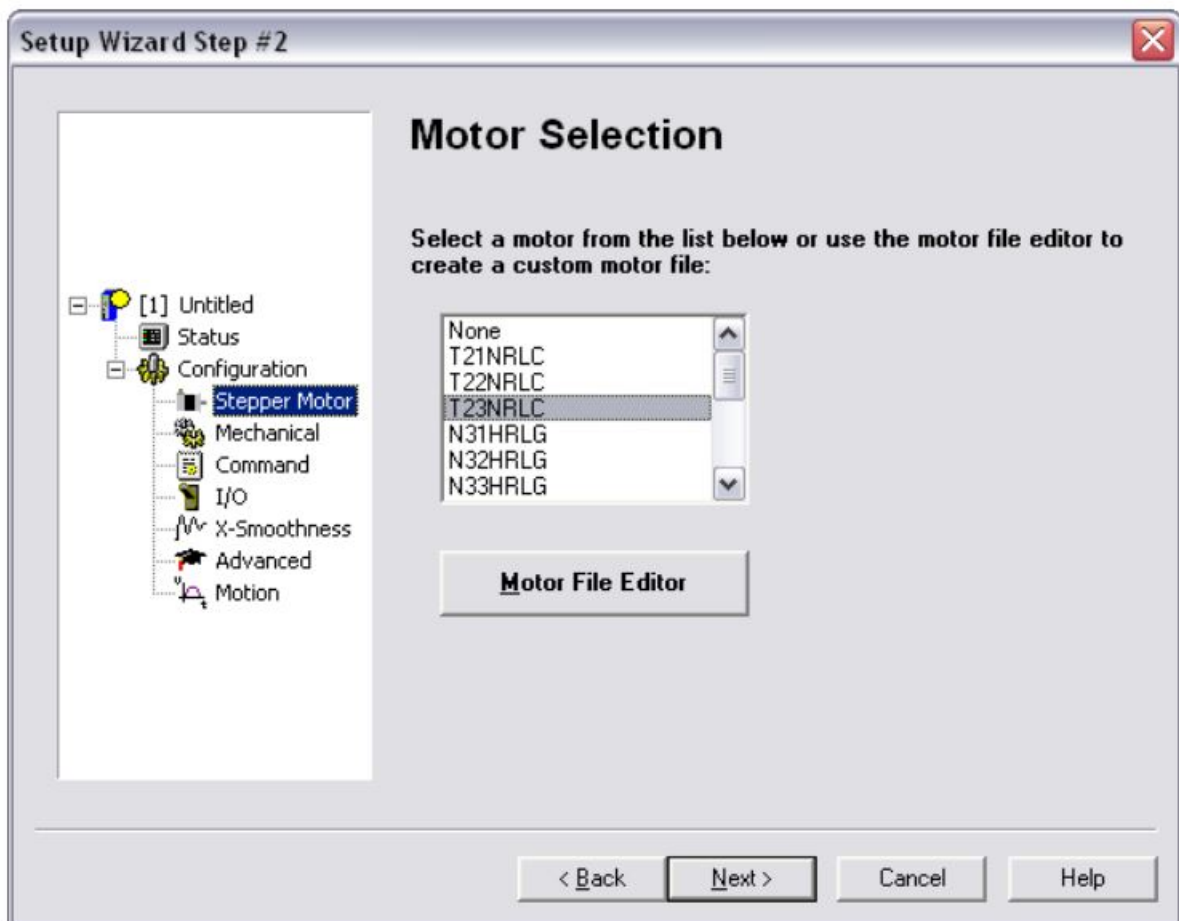

Figure 12. Motor Selection
5. In the motor selection dialog, shown in Figure 12, select the NI stepper motor you have connected to the drive. If you are using a third-party motor, select None from the list, click the Motor File Editor button, and enter the motor information. The T23NRLC motor is selected in this example.